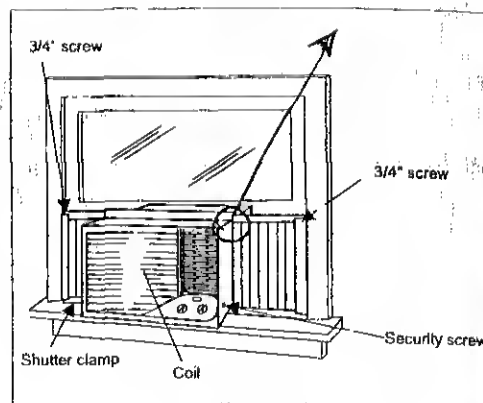

Fig 16
- B. Reinstall the slide-out-chassis security screws (removed earlier) on both sides of the cabinet (Fig 16) Secure the top of the shutter frames to the window sash with (2) 3/4" screws
- C. Now, secure bottom frames of shutters using one shutter clamp and one 3/4" screw on each side (Fig 16)